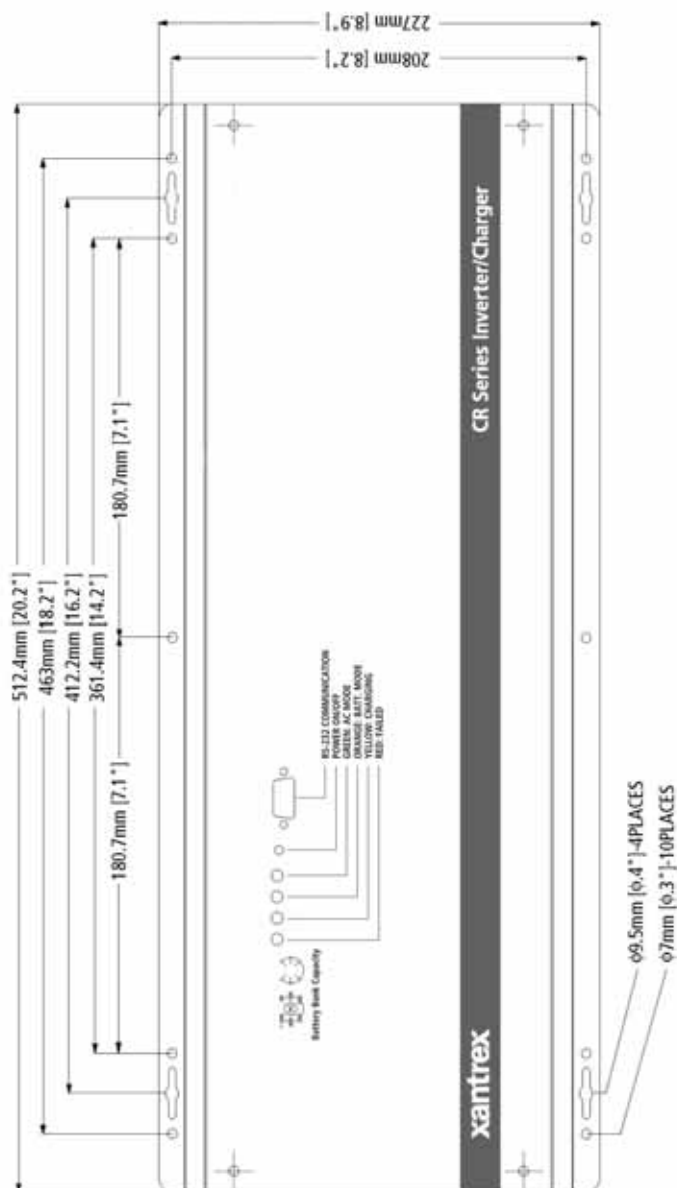

Figure 2-1 Dimensional Drawings for Screw Hole Placement
7. Drill pilot holes for the mounting bolts into the 2 in. x 4 in. boards, referring to Figure 2-1 for locations.
As the mounting walls may be made of materials other than wood, Figure 2-1 and the methods described in “Mounting on Wallboard” are valid, providing local mounting codes are met. You will need to refer to your local building codes in order to determine what type of mounting equipment is needed to securely mount the CR Series.